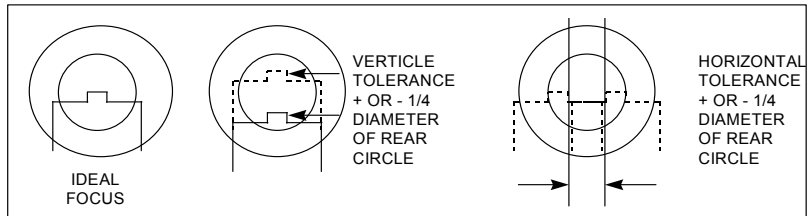

Figure 3-34
- d. Using a 5/32 Allen wrench, adjust the height of the three legs of the Lampchanger Plate until the focus fixture tip is centered in the hole in the lens, as shown in Figure 3-34.